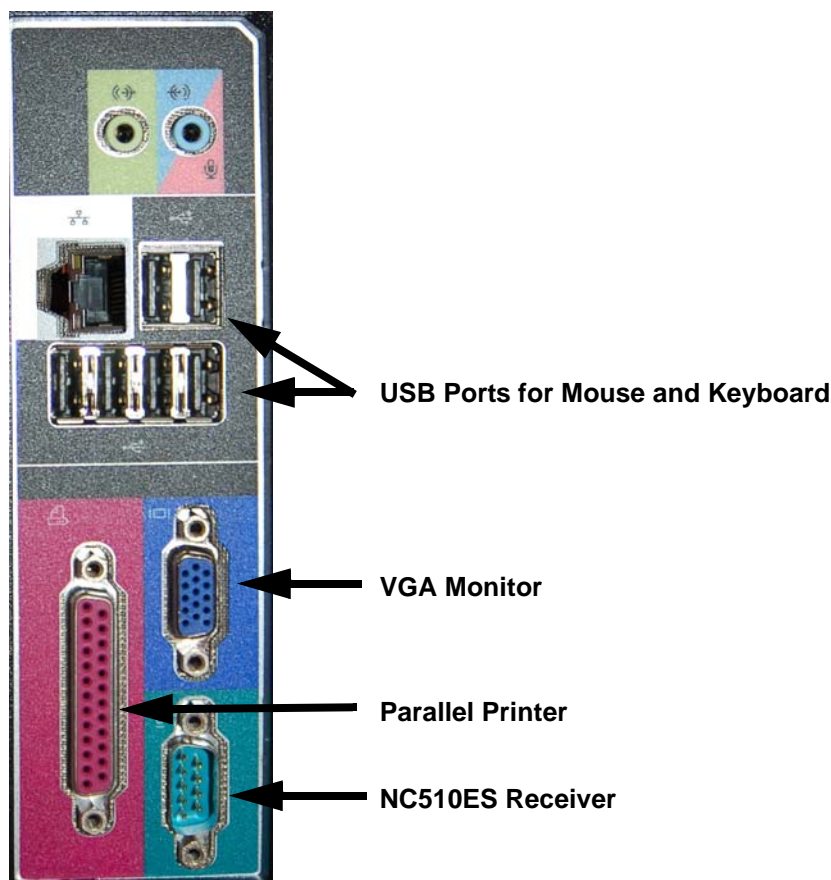

FIGURE 48. Connections to the NC501ES Master Station Computer's Main Connection Panel
- Attach the monitor, keyboard and mouse to the NC501ES Master Station Computer, see Figure 48 on page 50.